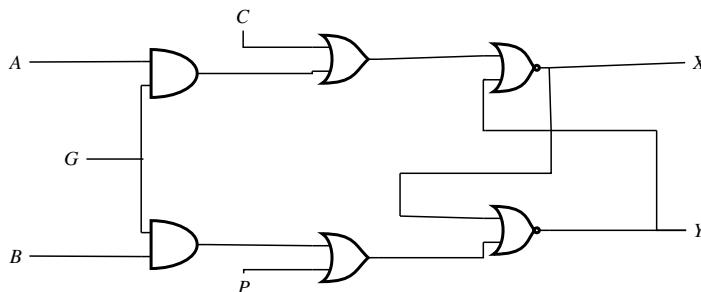

Fig. 5.35
40. For the following circuit Fig. 5.35, the correct logic values for the entries  $X_2$  and  $Y_2$  in the truth table in Table 5.2 are